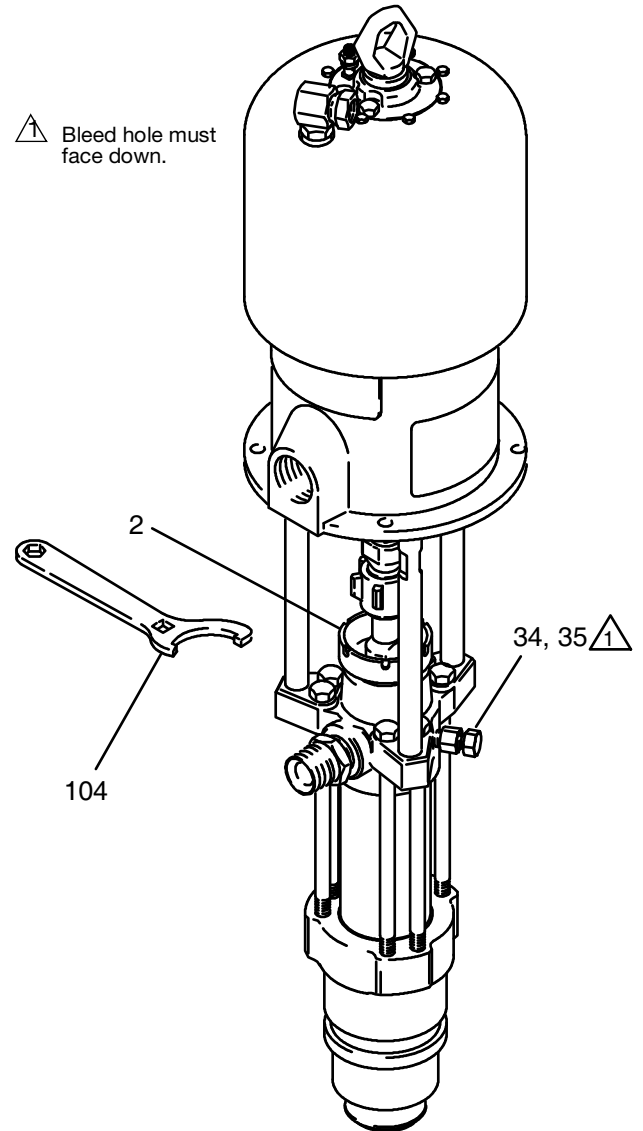

Fig. 5
Fill the packing nut/wet-cup (2) 1/3 full with Graco Throat Seal Liquid (TSL) or compatible solvent. See Fig. 5. Using wrench (104) (order separately), adjust the packing nut weekly so it is just snug; do not overtighten. Follow the **Pressure Relief Procedure** above before adjusting the packing nut.
If the pump fails to prime properly, open the bleeder valve plug (35) slightly. Use the bleed hole, on the underside of the valve body (34), as a priming valve until the fluid appears at the hole. See Fig. 5. Close the plug (35).